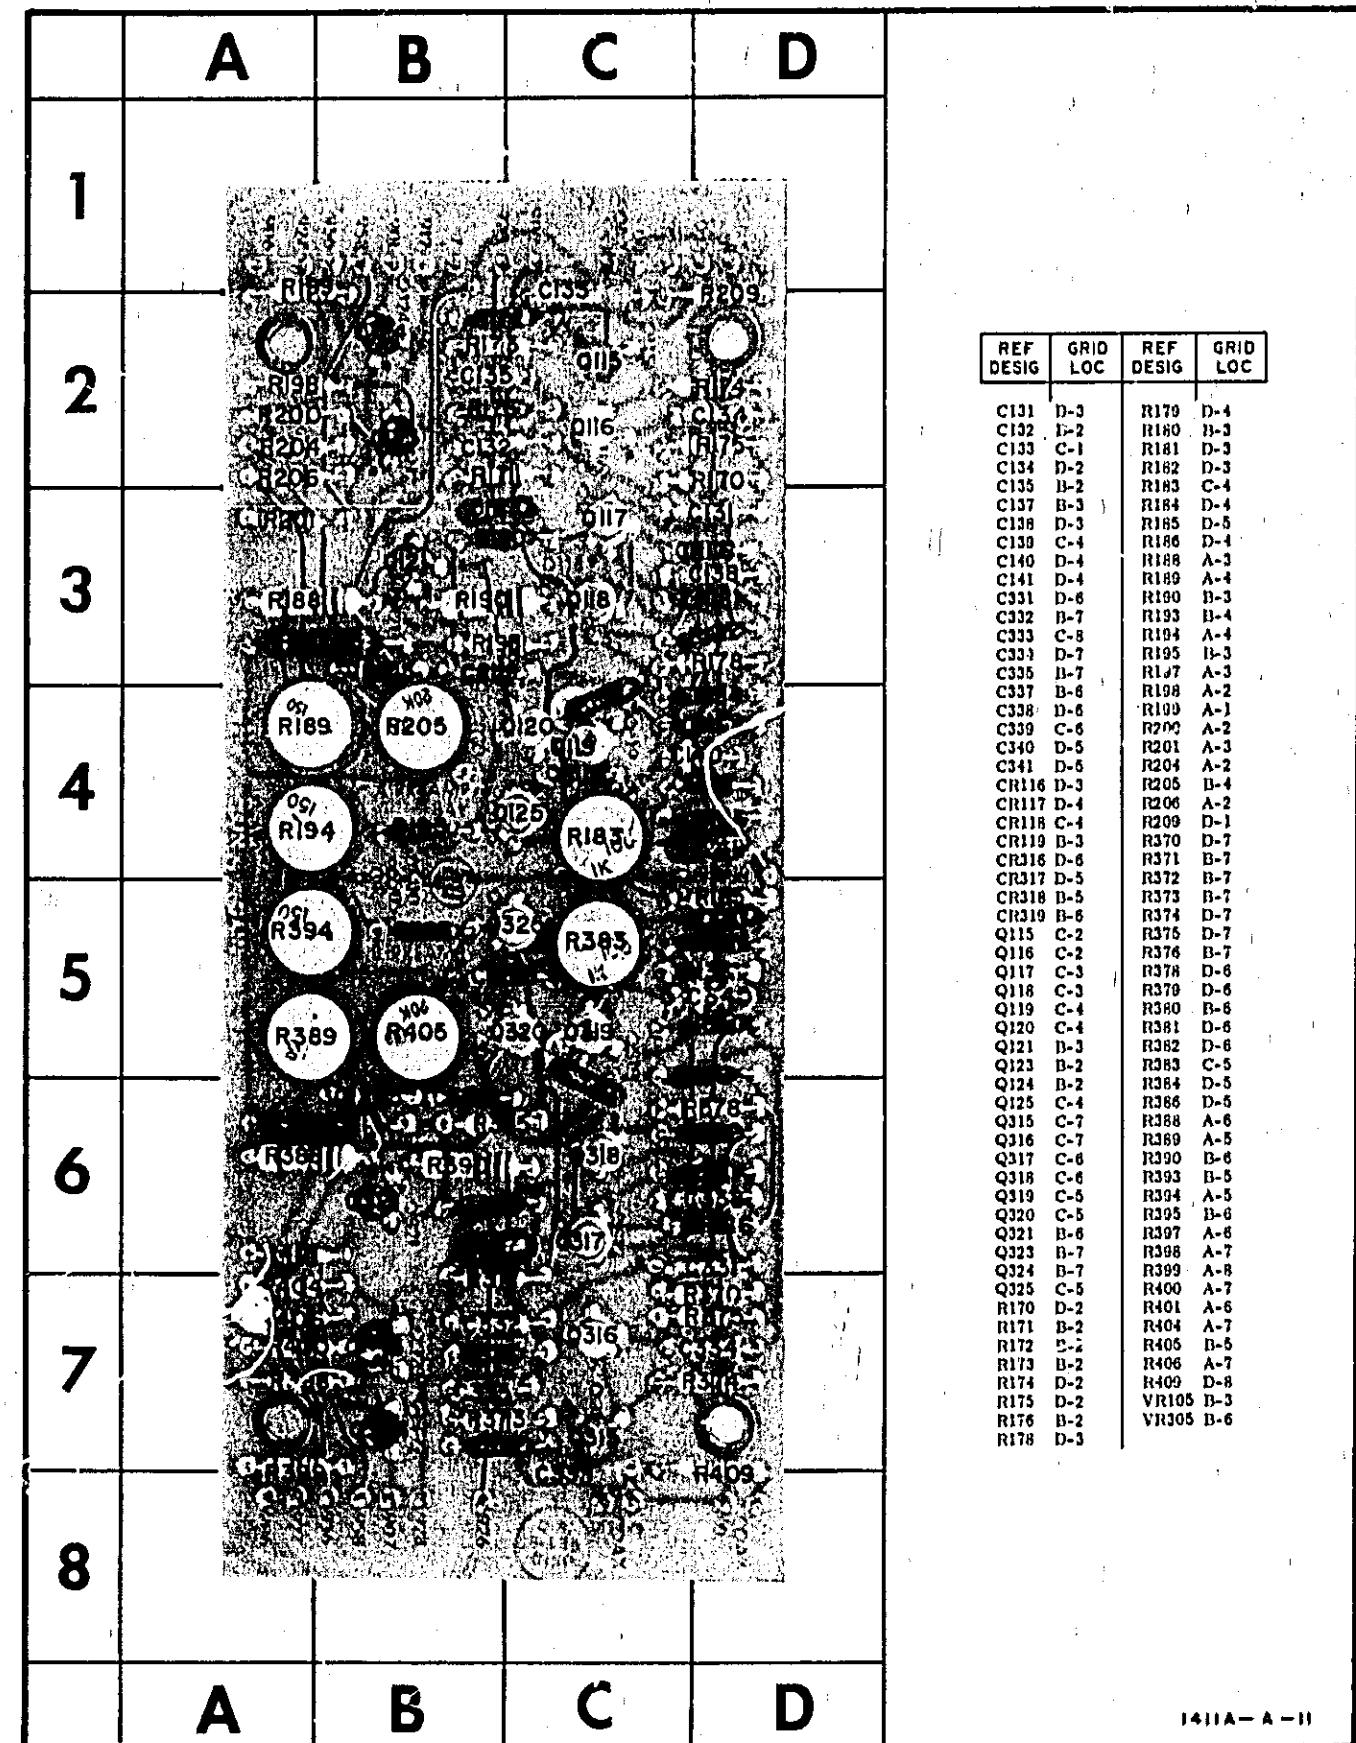

Figure 8-7. Component Identification, Stretcher and Amplifier (A105)
- board (refer to Figures 8-7 and 8-8). Unsolder the end of R180 that is common to R197 (20k), R195 (1k) and the MILLIVOLTS/CM switch (end of R180 closest to rear of instrument). Connect this loose end of the resistor to ground. This connects the bases of Q117 and Q118 to ground through 2k ohms.
- d. Connect the gate of Q120 (see Figures 8-7 and 8-8) to ground.
Channel B Stretcher and Amplifier components are identified in Figure 8-7.